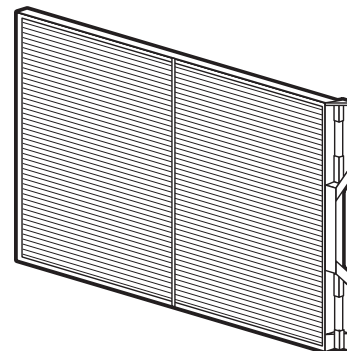
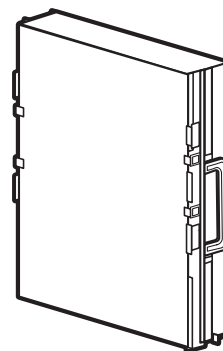

Fig. 4
Fig. 5
5. Remove the PRE-FILTER (Figure 4) and/or the COLLECTION CELLS (Figure 5) from the air cleaner.